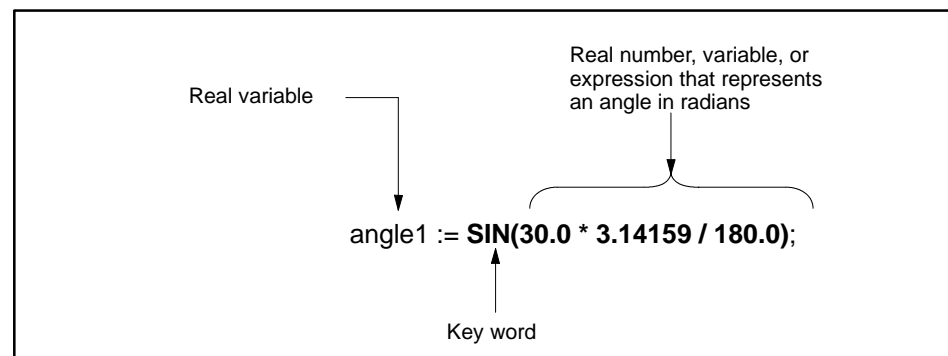

Figure 11-49 SIN Function
- The returned value is also a real number between -1 and 1 . For example, in Figure 11-49, the value of the variable, **angle1**, is 0.50 .